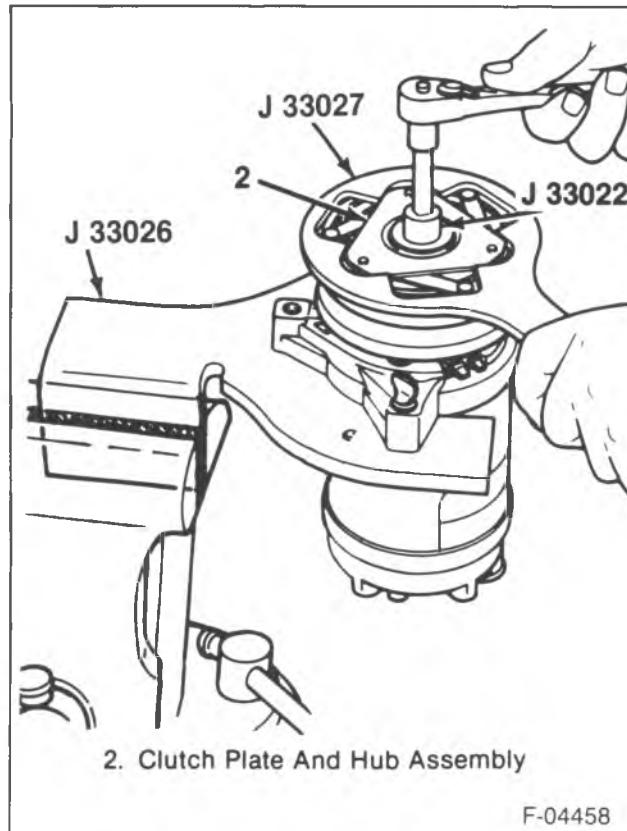

Figure 5—Removing the Shaft Nut
- Clamp J 33026 in a vise and attach the compressor to the holding fixture with thumb screws (figure 5).
1. Shaft nut (1) using J 33022 (figure 5).
- Hold the clutch plate and hub assembly (2) steady using J 25030.
2. Clutch plate and hub assembly (2).
- Thread J 33013-B into the clutch plate and hub assembly (2).